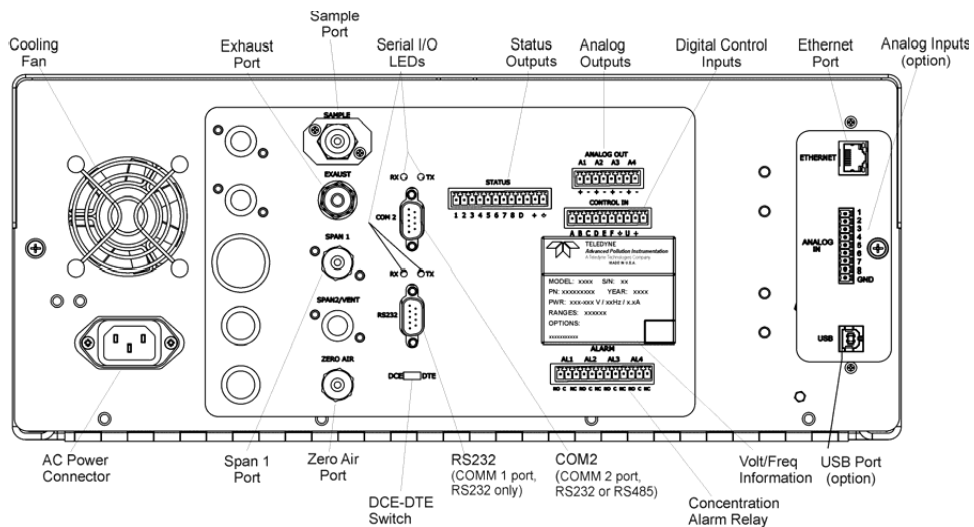

Figure 6.1 Rear panel of the instrument.
- 6.2.1 Connect all sampling and exhaust lines to the sampling and exhaust ports, respectively if not connected. The sampling and exhaust ports are located at the rear panel of this equipment. Figure 6.1 shows a schematic of the rear panel. Sample inlet pressure of any gas should not exceed 0.5 in-Hg above ambient, and ideally should be equal to the atmospheric pressure.